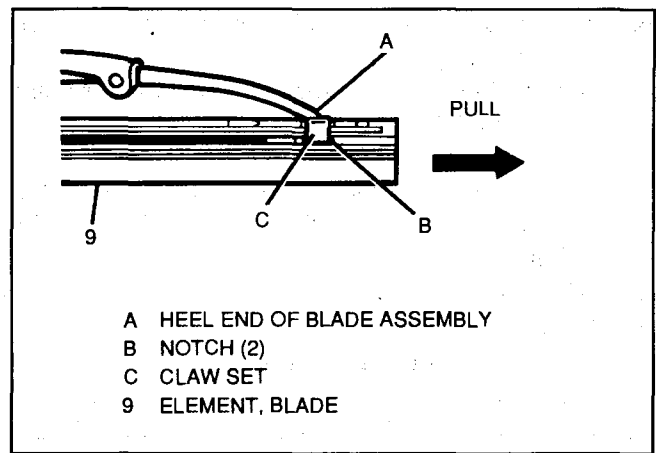

Figure 14 — Wiper Blade Element Removal
Figures 14 and 15
2. Blade element (9, Figure 14) has two notches at one end which are engaged by the bottom claw set of blade assembly. At notched end, pull blade element from blade assembly.